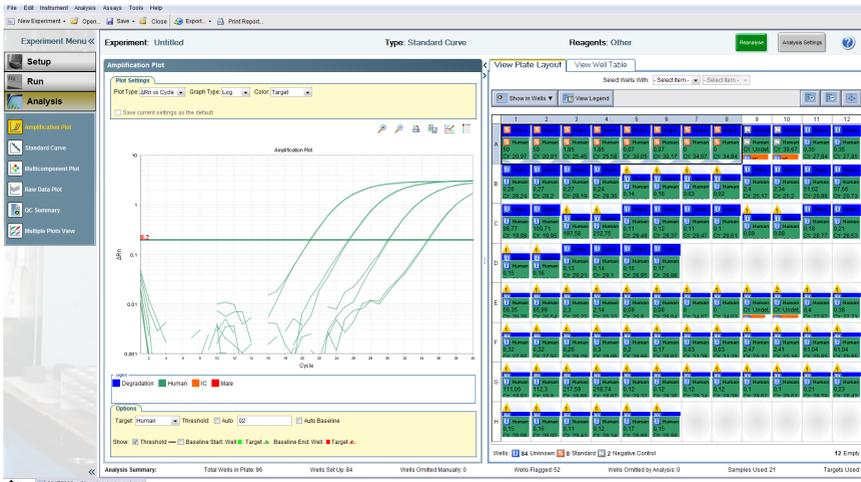

Figure 31. Sample analysis for the QPP_FAM, QPP_JOE, QPP_ATTO550 and QPP_ATTO647N channels.
4. In the **Amplification Plot** tab (found in the **Analysis** tab), select the appropriate samples in the table below the amplification plot. Choose **Human**, set threshold to **0.2**, deselect **Auto Baseline** and then press **Analyze**. Repeat this for Male, Degradation, and IC with the following thresholds listed (Figure 31, next page):